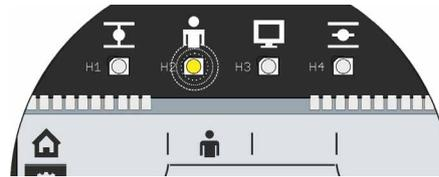

Fig. 3: Local operation mode is active
2. Confirm selection: Press Drive Controller. LOCAL mode is active, the symbol for LOCAL mode is continuously displayed and the yellow Local LED is illuminated. The symbol for REMOTE mode and the REMOTE LED are not illuminated (fig. 3).